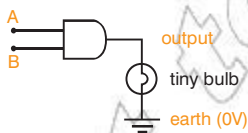

Figure 5.86
- a) In Figure 5.86, does the output of the logic gate need to be a '0' or a '1' in order for the tiny bulb to light? Explain.